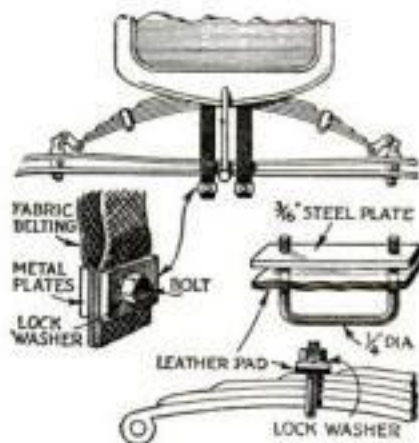

Fig. 2. Fabric straps as shown above will prevent excessive rebound and keep your springs from breaking. Special C-clamps stop the bouncing
**W**HILE the best possible insurance against spring breakage is a set of properly adjusted recoil snubbers, you will find that fabric belts clamped around the axle and the frame as shown in Fig. 2 are worth while. The belts will not interfere with the free action of the spring when a bump is encountered, but when the car starts to bounce too high, they will prevent bending the springs the wrong way so far that they break. If your car has a tendency to excessive up and down wobble when you hit a succession of bumps, special clamps, like spring clips, fitted with leather friction pads, can be used to increase the friction between the leaves and in this manner deaden the spring action.